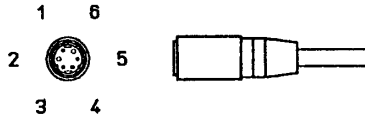

Figure 7.2 Connector pin numbers
- (5) Is the communication cable for the BT200 broken? If a spare cable is available, replace it. If not, use a multimeter to check for breakage with reference to the connections shown below. (Figure 7.2)